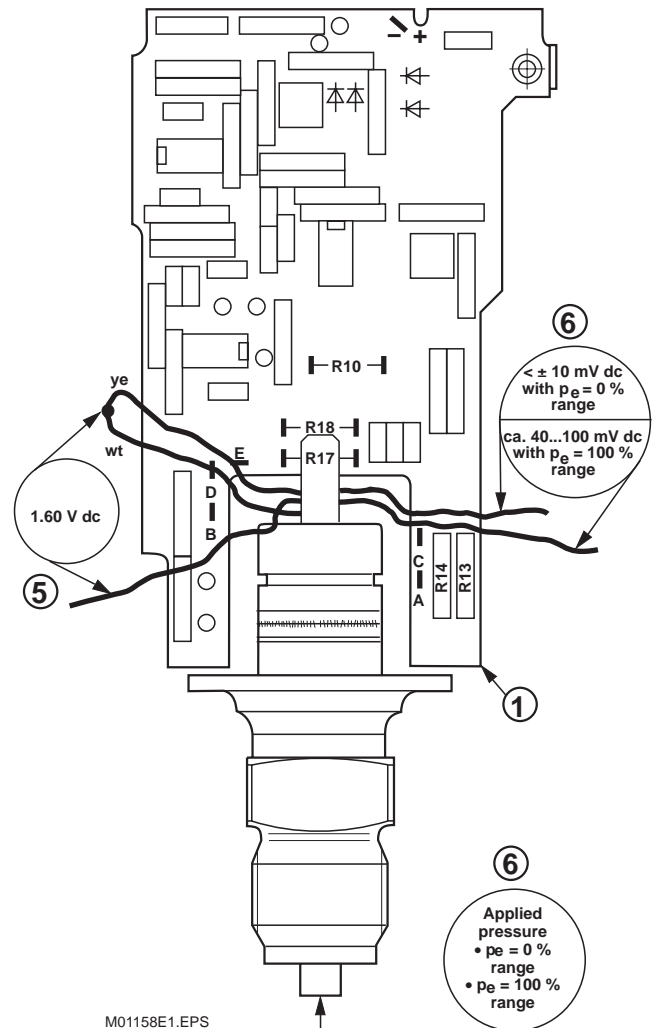

Fig. 23. Measuring mechanism/electronic unit of the AMD 200
(see Fig. 23)
2. Unsolder the wiring between the measuring mechanism and electronic on the electronic pcb (solder terminals A(r), B(bk), C(bu), E(wt), D(ye) see Fig. 23).